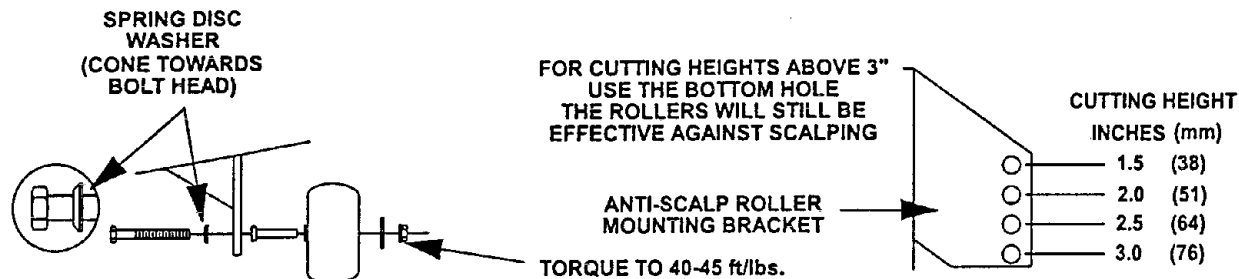

FIG. 3
- d) The 52" decks use anti-scalp rollers. For maximum deck flotation, place rollers in one of the positions shown in Figure 3. Roller should maintain 1/4 in. (6.4 mm) clearance to ground.